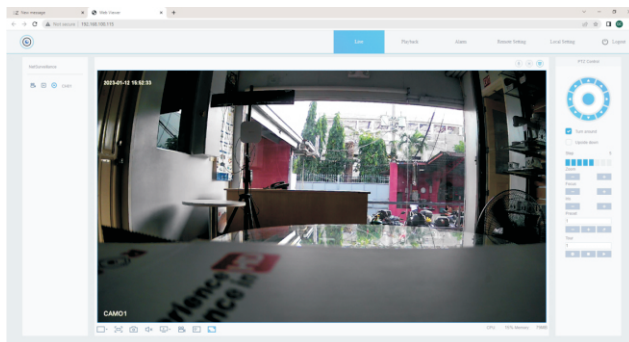

Figure 6. IP camera main configuration page
12. The IP Camera's main configuration page will be displayed. See Figure 6.